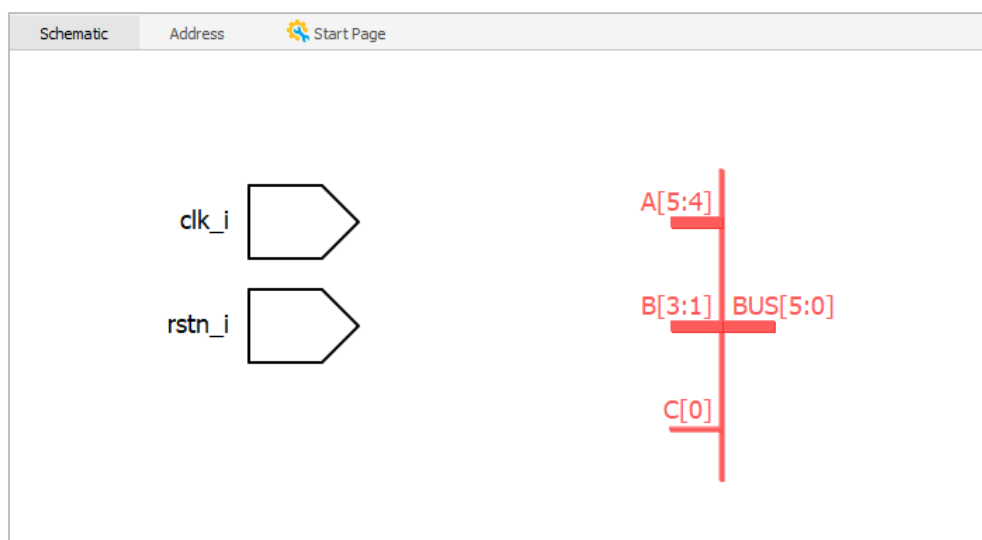

Figure 2.52. Schematic View Shows a Concat Module
2. Click **OK**. The schematic block for the concat module in red appears in the Schematic view (Figure 2.52). you can drag and connect them with the rest of design.